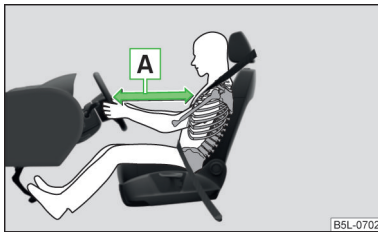

Fig. 142
- For the driver and front passenger, it is important to maintain a distance of at least 25 cm to the steering wheel or dashboard A » Fig. 142. Not maintaining this minimum distance will mean that the airbag system will not be able to properly protect you - hazard! The front seats and the head restraints must always also be correctly adjusted to match the body size of the occupant.